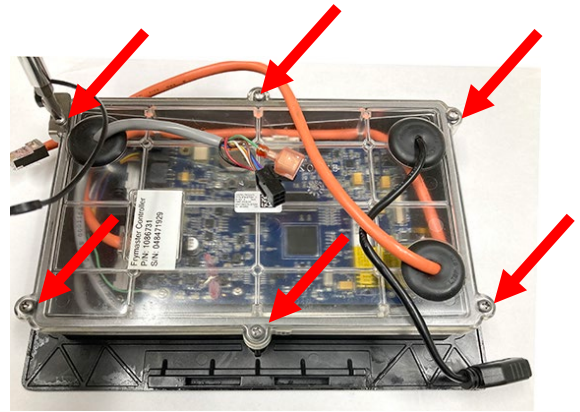

Figure 8
10. Using a Phillips screwdriver, remove the six (6) screws attaching the rear cover to the controller (see Figure 8).
16. Reattach the rear cover using the six (6) screws and lanyard bracket (see Figure 8).